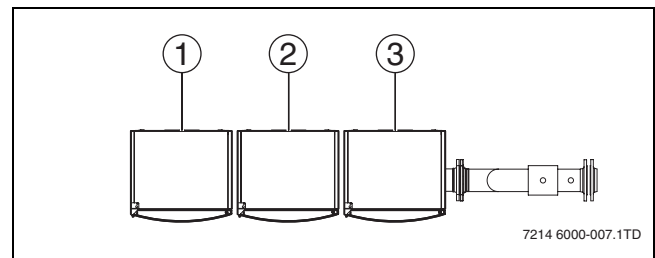
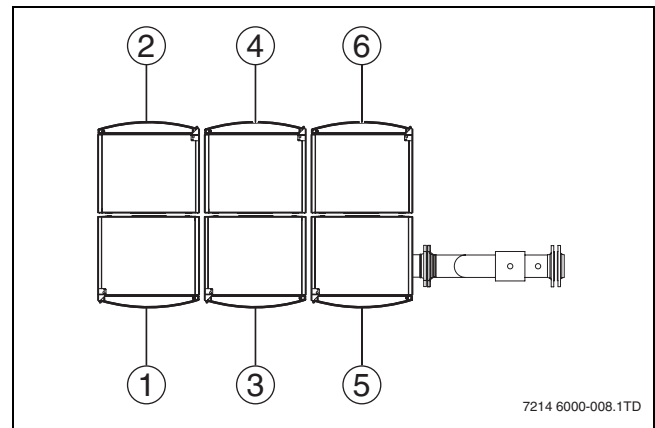

Fig. 7 Installation sequence for a TL-inline configuration
Fig. 8 Installation sequence for TR-back-to-back configuration
- ▶ Hang the first boiler on the cascade frame as shown in fig. 7 or fig. 8.
You must observe the installation sequence indicated in fig. 7 and fig. 8 when installing the boilers.